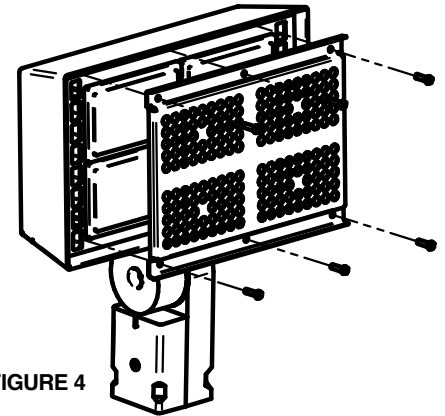

FIGURE 4
Mounting the Louver System (See Fig. 4)
- Place Louver System over lenses and drill 6 holes using a #24 (0.152" diameter) drill bit, 1/2" depth, through the mounting holes (Fig. 4). No tapping of the holes will be necessary after drilling.
Installing the Photocontrol (See Fig. 4, 5, and 6)